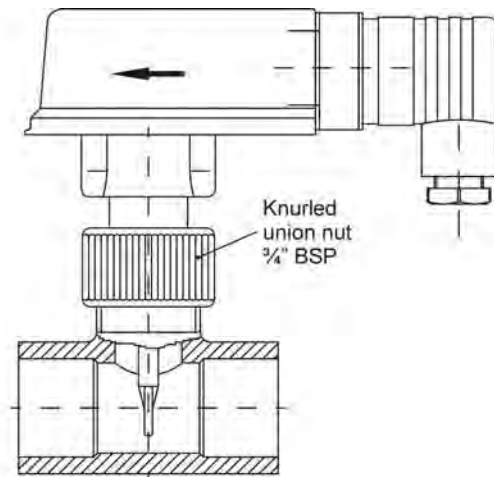

Fig. 6
- ⇒ With version ...MKU seal the PVC tube section (Fig. 6) in the pipe using suitable adhesive joints.